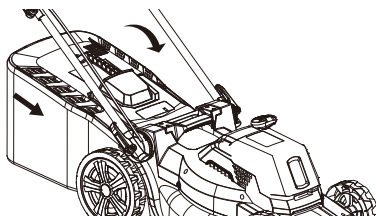

FIG.5
4. Open the deflector guard, hold it in position ; Insert the grass catcher (Fig.5).